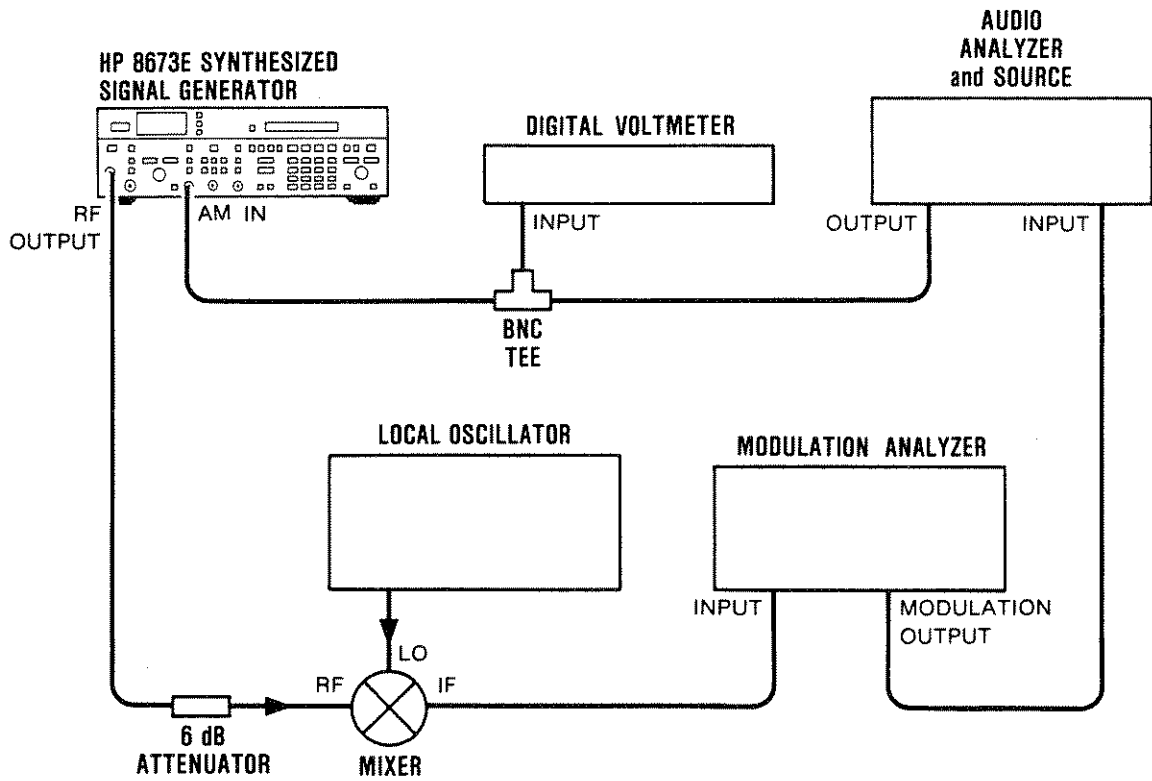

Figure 4-8. AM Modulation Test Setup
1. Connect equipment as shown in Figure 4-8.